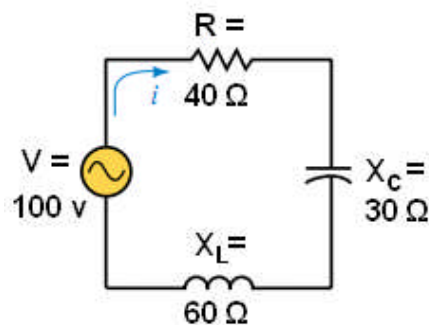

Fig. 2.5-10
2. For the circuit in Fig. 2.5-10. Determine the following: